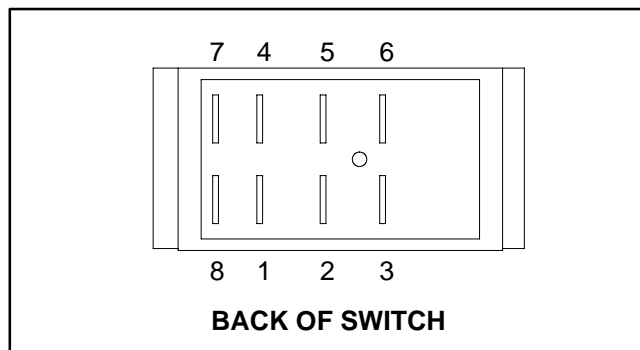

Figure 19
3. The switch terminals are marked as shown in Figure 19. In the ON position, continuity should exist between terminals 2 and 3 and also between terminals 5 and 6. In the OFF position, continuity should exist between terminals 1 and 2 and also between terminals 4 and 5.